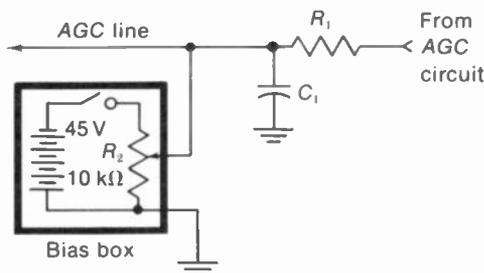

FIGURE 15-12 BATTERY BIAS BOX CONNECTED TO AGC LINE FOR MANUAL CONTROL OF BIAS.
**Battery bias box.** A more general method of localizing troubles to the AGC circuit requires the use of a bias box, as shown in Fig. 15-12. This provides an adjustable bias voltage to take the place of the AGC bias. Connect one output lead directly to the AGC line and the opposite lead to chassis ground. The low resistance of the battery effectively shorts the high-resistance AGC circuit, so that it need not be disconnected. If the picture and sound are normal when the battery supplies the bias, but not with the AGC bias, the trouble must be in the AGC circuit. The bias box is also useful for supplying the fixed bias that is necessary in rf and IF alignment.
The polarity of the bias box is shown with negative output in Fig. 15-12, for negative grid bias on tubes. With transistors, though, the required polarity may be either negative or positive. For positive bias voltage, connect the positive output lead to the AGC line and ground the negative lead.